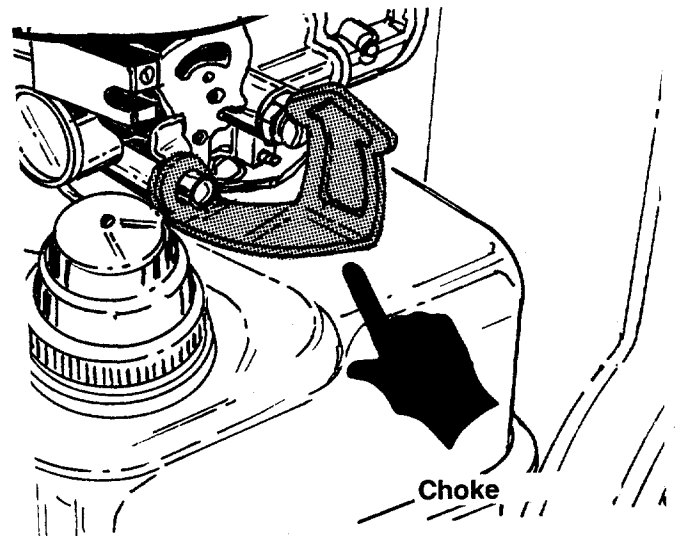

FIGURE 18.
2. Move choke lever to "CHOKE" position. See figure 18. After the engine starts, gradually push the choke lever off.